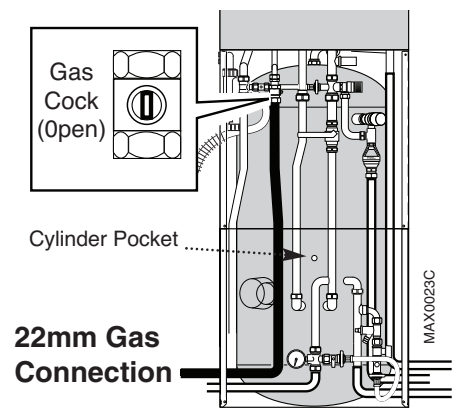

Fig. 9a
8. Route the sensor cable behind the cylinder pipes and insert end 'B' fully (approx. 310mm) into the cylinder pocket (Fig.9a).
## 2.3 Connect the Gas Supply (Fig. 9a)